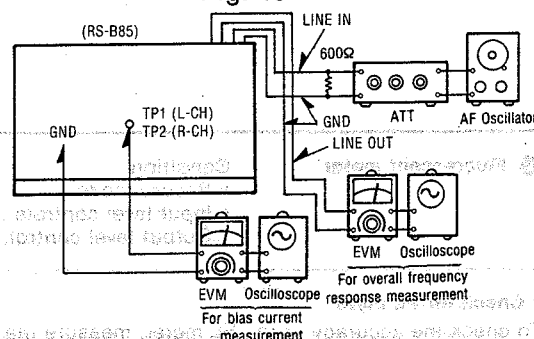

Fig. 14
1. Make connections as shown in fig. 14.